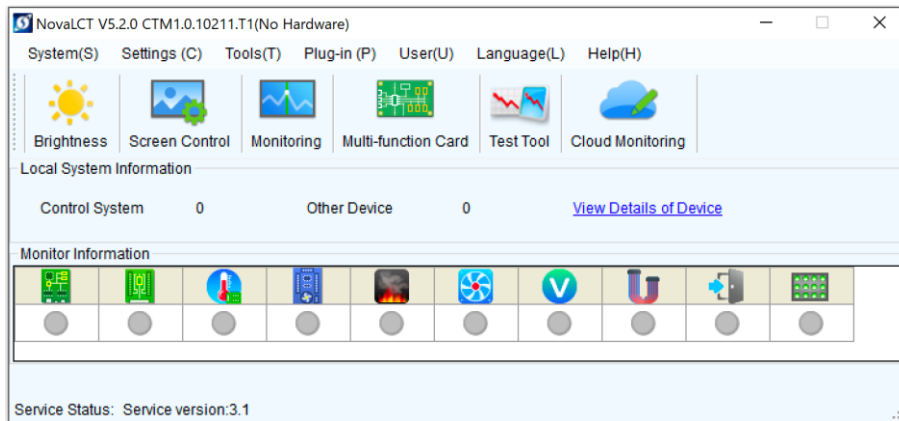

Figure 95: Starting the Monitoring Function
Step 1) Click the **Monitoring** button to open the Monitoring interface (see Figure 95).